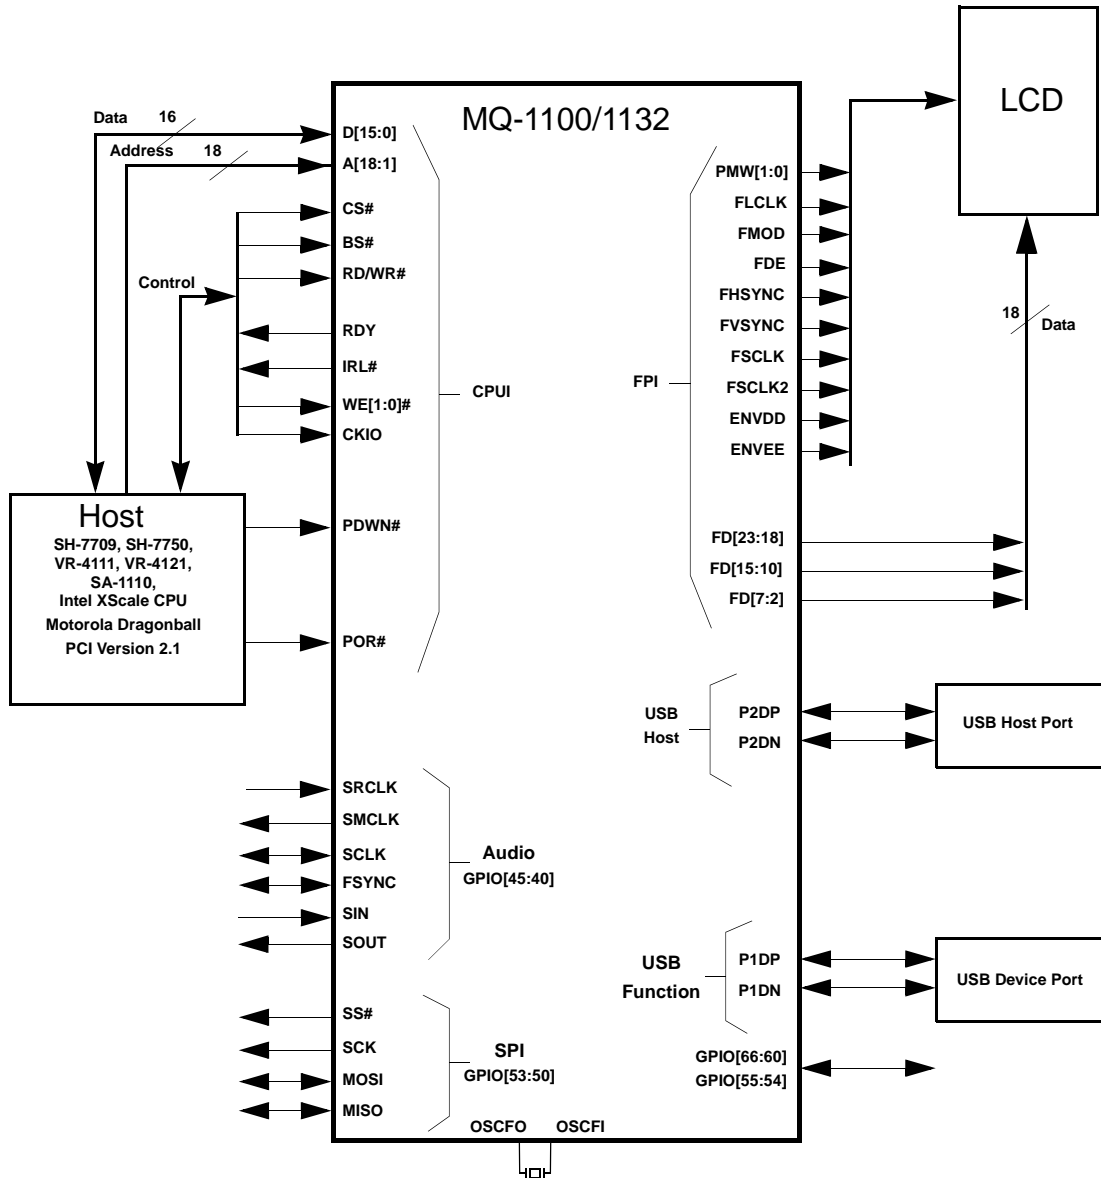

Figure 1-1 MQ-1100/1132 Block Diagram
*Figure 1-1* on page 1-2 illustrates the block diagram for MQ-1100/1132.